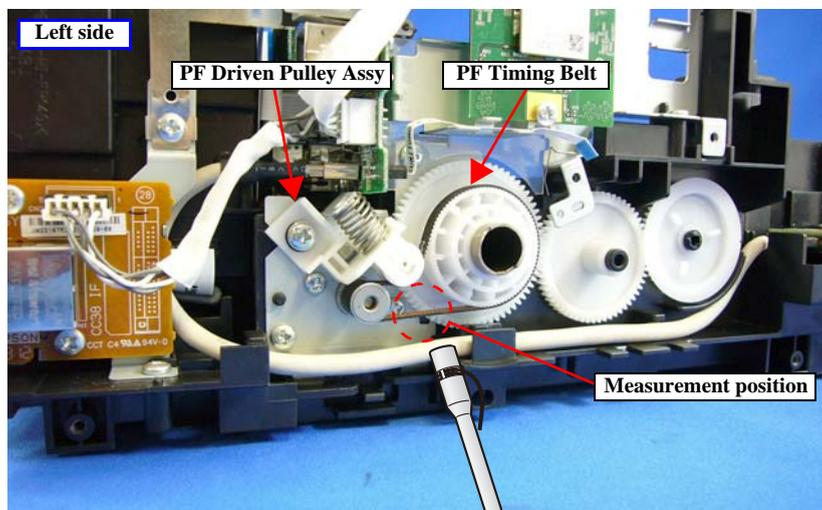

Figure 3-3. Checking the PF Timing Belt Tension
2. Bring the microphone of the sonic tension meter close to the position shown in Figure 3-3.